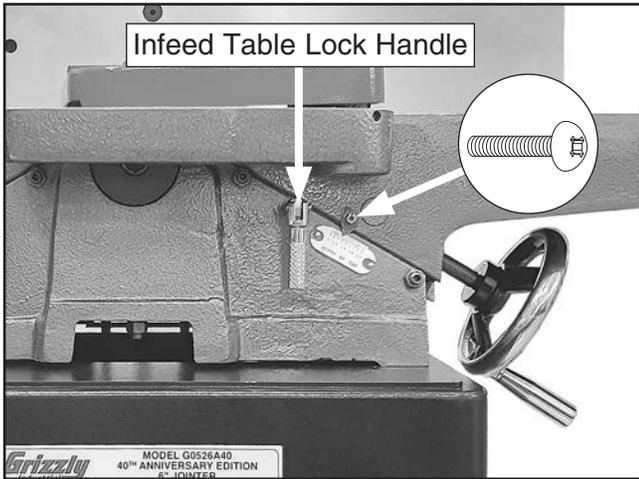

Figure 51. Infeed table depth scale components.
- Loosen infeed table lock handle (see **Figure 51**).
- Loosen Phillips head screw on depth scale pointer, adjust pointer to "0", then tighten screw to secure position (see **Figure 51**).